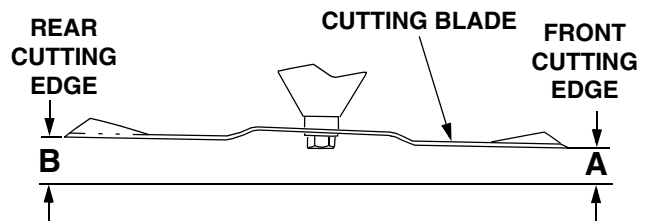

Figure 32
- Measure and record the distance from the front cutting edge to the ground (measurement A), and from the rear cutting edge to the ground (measurement B), for each of the blades. The front edge of each blade (measurement A) should be lower than its back edge (measurement B) by 1/8 to 1/4 inch. See Figure 32.